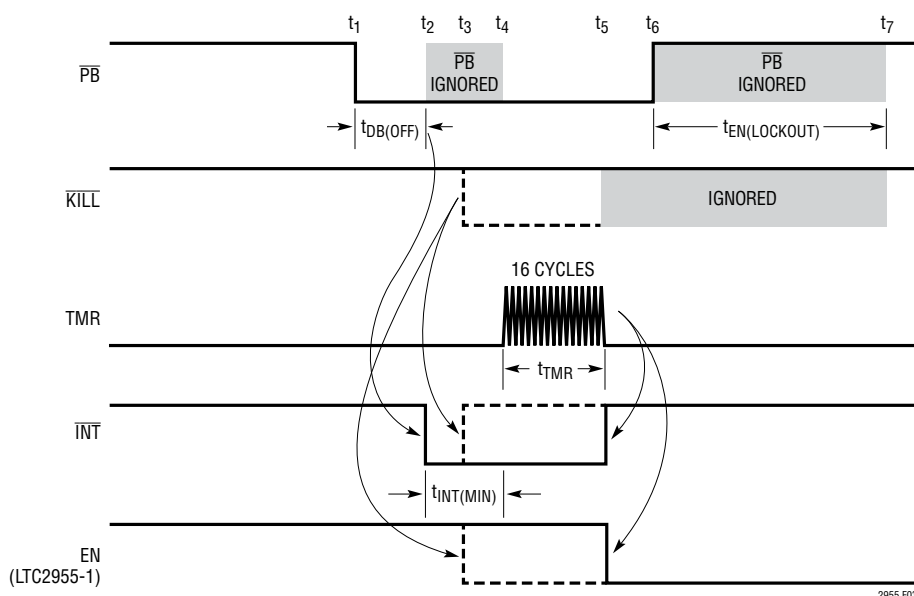
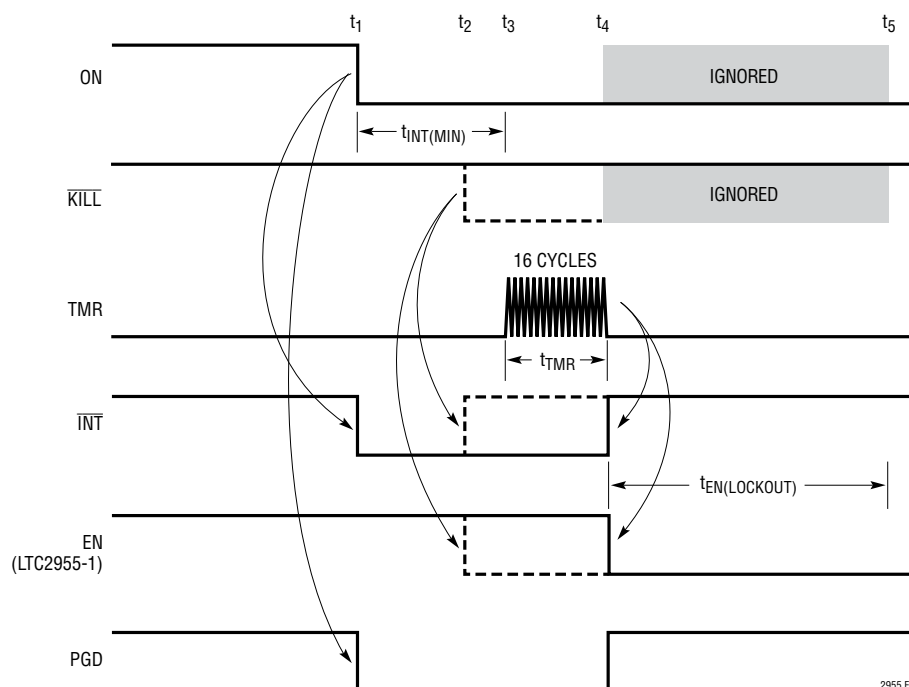

Figure 3. Pushbutton Turn-Off Timing
Figure 5. ON Pin Turn-Off Timing (DFN Only, $V_{SEL} > 1.2V$ and the Preceding Turn-On Sequence Was Initiated by the ON Pin Rising Edge)
Figure 3 shows the turn-off sequence of the LTC2955-1 initiated through the $\overline{PB}$ pin. A turn-off sequence refers to the LTC2955-1 releasing the EN output. This turns off the voltage regulator.
A high to low transition on $\overline{PB}$ (t_1) starts the turn-off sequence. In order to assert $\overline{INT}$ (interrupt output) low, $\overline{PB}$ must stay low continuously for 32ms ($t_{DB(OFF)}$). At the end of the 32ms (t_2), the $\overline{INT}$ pin is asserted low and will stay low for at least 32ms ($t_{INT(MIN)}$), even if the $\overline{PB}$ pin goes high during this period (t_2 to t_4). When the μP receives this interrupt signal, it should start to perform its power-down functions and assert $\overline{KILL}$ low (t_3) once it is done. The LTC2955-1 will then release $\overline{INT}$ and pull EN low, thus turning off the system power, as shown with dotted lines in Figure 3.
high). This can be done by holding the pushbutton down for a long period ($> t_{DB(OFF)} + t_{INT(MIN)} + t_{TMR}$) as shown with the solid lines in Figure 3. If the $\overline{PB}$ pin remains low at the end of the 32ms minimum $\overline{INT}$ pulse width ($t_{INT(MIN)}$), the external timer will start counting (t_4).
After the EN output goes low and the $\overline{PB}$ pin goes high, the LTC2955-1 starts the one second lockout time ($t_{EN(LOCKOUT)}$). During this lockout time (t_6 to t_7 in Figure 3)
Figure 5 shows the turn-off sequence of the LTC2955-1 initiated by the ON pin. The timing sequence is slightly different from that by the pushbutton as there is no debounce time ($t_{DB(OFF)}$) before the $\overline{INT}$ pin pulls low. The ON pin falling edge can start the turn-off sequence only if the following two conditions are met: (1) The preceding turn-on sequence was initiated by the ON pin rising edge, and (2) The SEL pin must be tied high ($>0.8V$). For TS8 package, the ON pin falling edge is ignored.
In Figure 5, a high to low transition at ON (t_1) starts the turn-off sequence. The interrupt output ($\overline{INT}$) is asserted immediately when the ON pin goes low. Unlike the $\overline{PB}$ pin turn-off sequence, there is no 32ms debounce time ($t_{DB(OFF)}$) for the ON pin going low. This allows the system to initiate a shutdown as soon as the monitored supply is removed and allows the μP the maximum amount of time
to perform power-down functions. The $\overline{INT}$ pin will stay low for at least 32ms ($t_{INT(MIN)}$). When the μP receives this interrupt signal, it should start to perform its power-down functions and assert the $\overline{KILL}$ input low (t_2) once it is done. The LTC2955-1 will then release the EN and $\overline{INT}$ outputs, thus turning off the system power, as shown with dotted lines in Figure 5.
If the μP fails to respond ($\overline{KILL}$ pin remains high, as shown with solid line in Figure 5) and the ON pin remains low 32ms after $\overline{INT}$ goes low, the external timer will start counting for 16 cycles (t_{TMR} , t_3 to t_4). If the ON pin remains low at the end of the 16 cycles (t_4), the LTC2955-1 will force the EN pin low and the $\overline{INT}$ pin high. See Applications Information for adjusting t_{TMR} .
The LTC2955 allows the user to force the system power to turn off if the μP fails to respond during fault conditions. As shown by the solid lines in Figure 3 and Figure 5, when the μP fails to bring the $\overline{\text{KILL}}$ pin low after the interrupt signal is asserted, the user can force a turn-off by holding down the pushbutton. The length of time that $\overline{\text{PB}}$ must be held low is given by a fixed 64ms delay ($t_{\text{DB(OFF)}} + t_{\text{INT(MIN)}}$) plus an adjustable power-down timer delay (t_{TMR}). The adjustable delay is set by placing an optional external capacitor on the TMR pin. Use the following equation to calculate the capacitance for the desired delay. C_{TMR} is the external capacitor at the TMR pin: